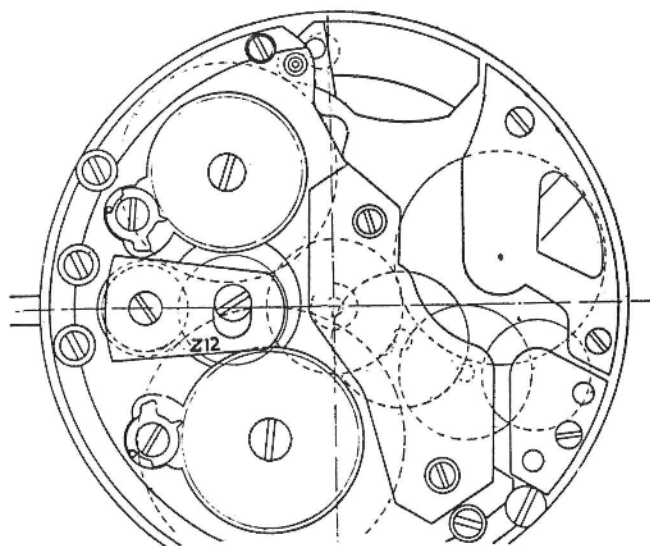
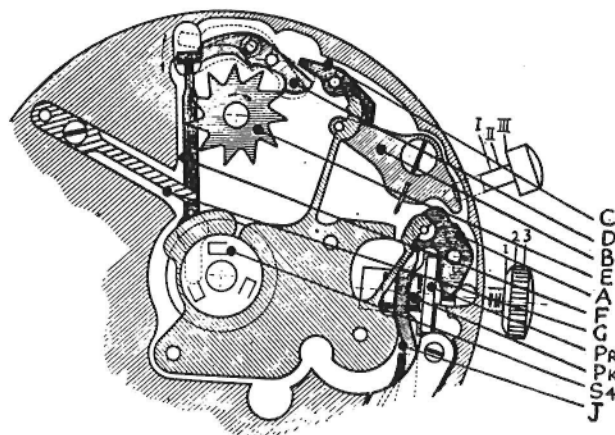

Fig. 1. Plan view (bridge side).
Fig. 2. Position I-III. This position is used for winding the movement, winding the alarm and leaving alarm free.
Pressing the pusher to change it from position III to position I (Figs. 2 and 4) causes the crown to jut out (change from position 1 to position 3). Conversely, pressing the crown causes the pusher to jut out. Shifting the crown from position 1 to position 3 (whether this is performed by pulling the crown or pressing the pusher) gives the same result as in a regular stem-setting mechanism: through the action of setting lever A and yoke J, the clutch wheel Pk is made to slide down into gear with the first setting wheel M1 (Figs. 3 and 4).
Winding the movement and the alarm are both performed with the crown in the same position—position 1 (all the way in). The system of castellation gearing of the clutch wheel and winding pinion (Pk, Fig. 2) effects the winding of the alarm mainspring when the crown is turned clockwise, and the movement mainspring when the crown is turned counter clockwise. Therefore, instead of unlocking the clutch wheel so that it turns idly, a second mainspring is wound for the watch movement. Fig. 1 shows, in plan view, the alternating crown wheel (Z12) transmitting the winding motion either to the alarm mainspring or to the movement mainspring, according to the direction in which the crown is rotated.
The pusher is put in position III by pressing the crown all the way in to position 1. Then the crown is pulled out to position 3 while the position of the pusher remains at III. It will be seen (Fig. 2) how this function is performed through the setting lever (A) clicking, as it were, with alarm rocker (B).
Figure 2 shows that position III of the pusher would allow the alarm hammer lever (D) to vibrate, were it not checked by the disconnecting lever (F). As a matter of fact (Please turn to page 160A)